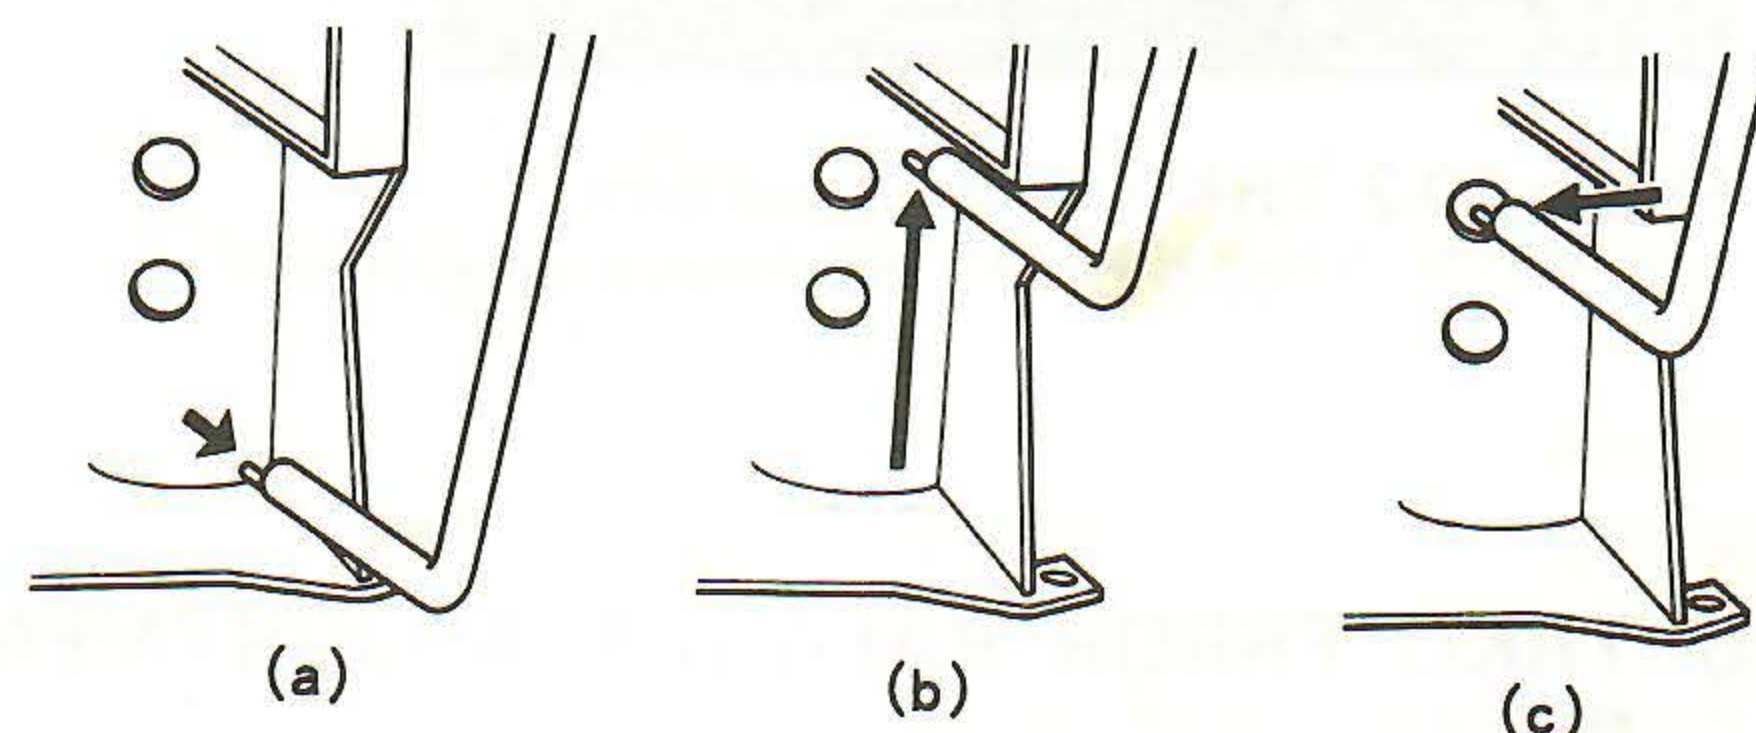

Fig. 10-7 Inserting Eccentric Screwdriver I
- ① Place Eccentric Screwdriver I in the position shown in Fig. 10-7(a).
- ② From this position, move Eccentric Screwdriver I along the surface on the right side until it contacts the top. (Fig. 10-7(b))
- ③ From that position, move Eccentric Screwdriver I along the underside of the top and to the left for approximately 5mm until it enters the grating adjustment hole. (Fig. 10-7(c))